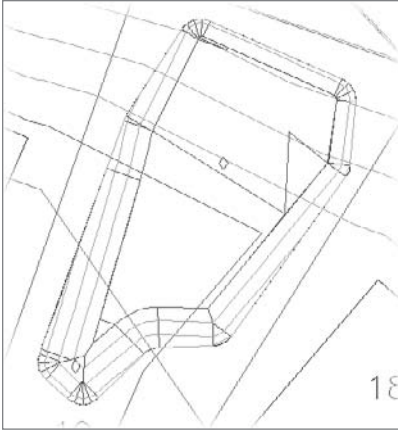

Figure A.103
20. Click OK to dismiss the dialog, and your pond should look like Figure A.103.